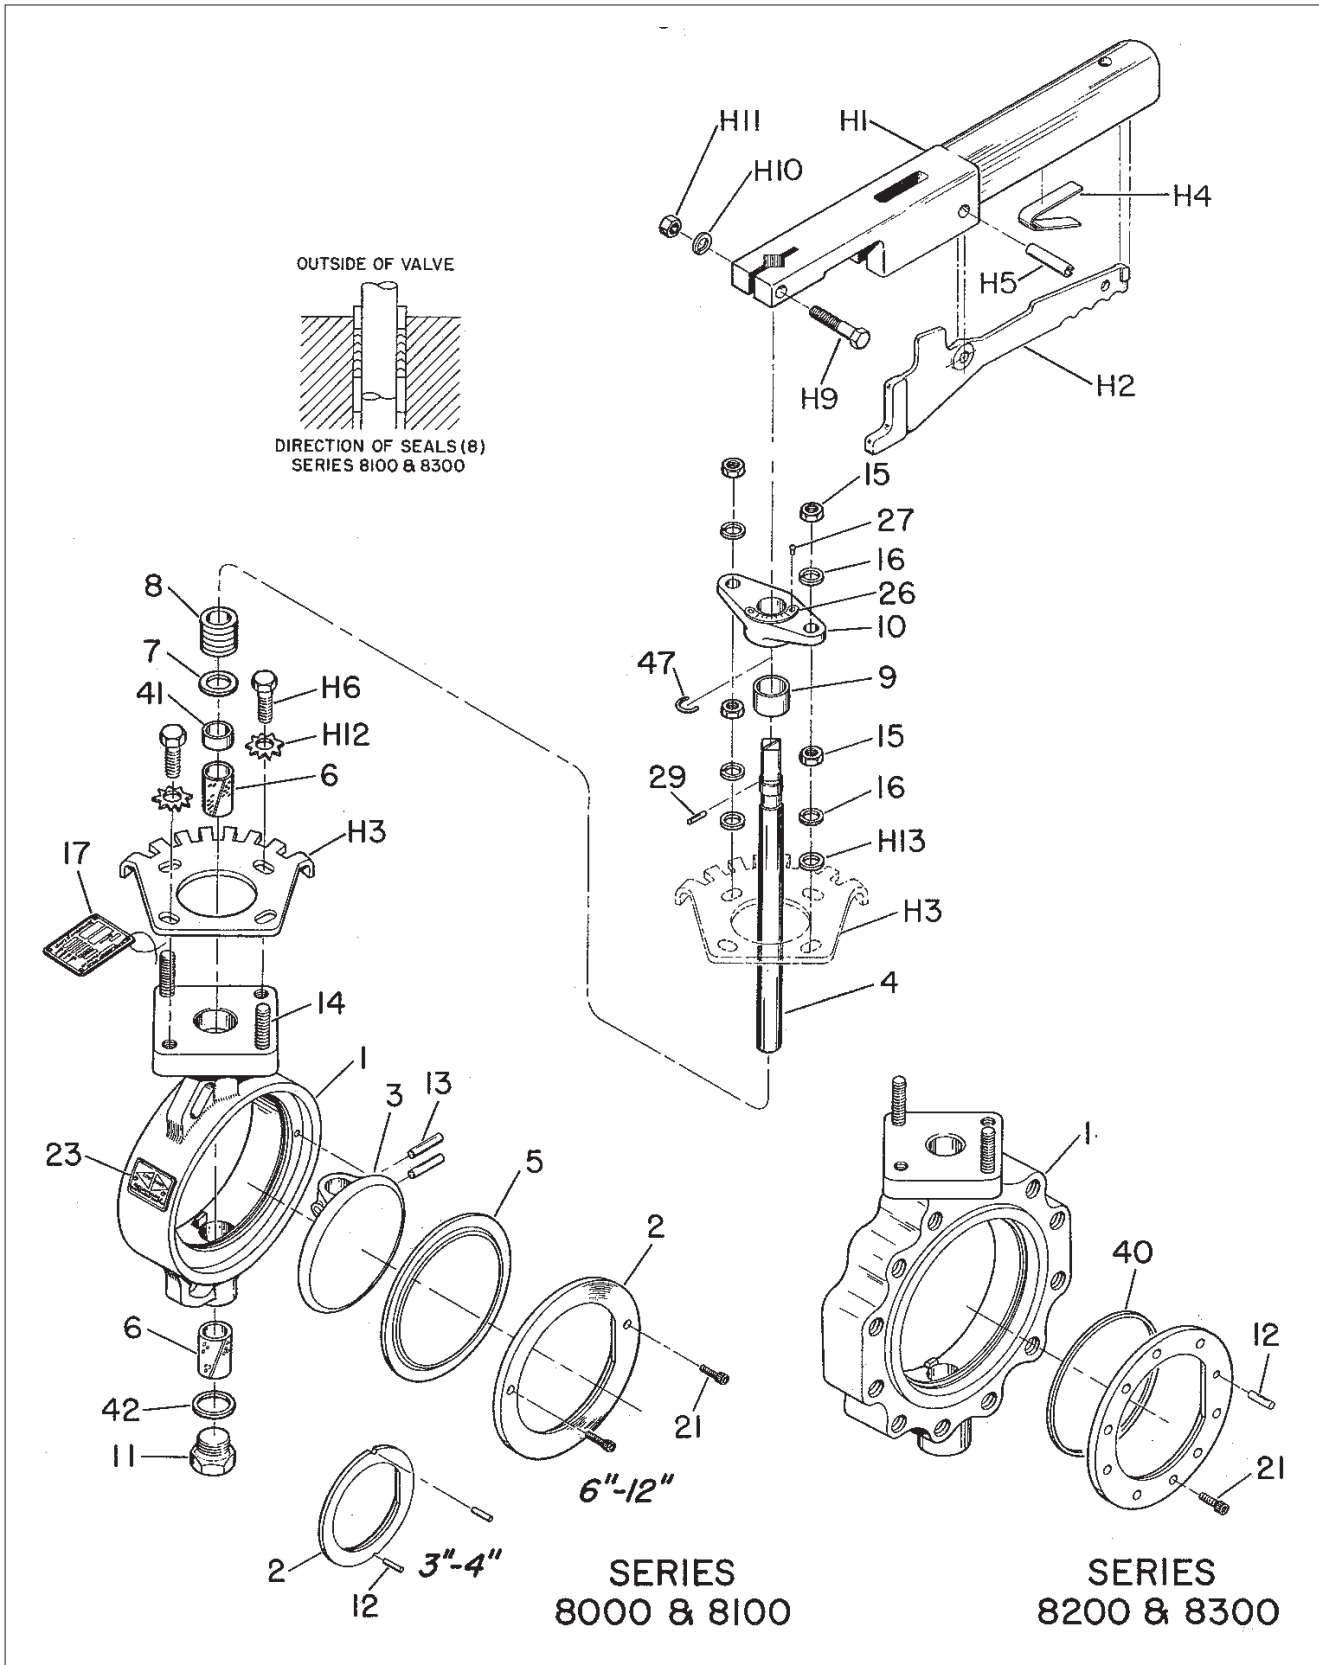
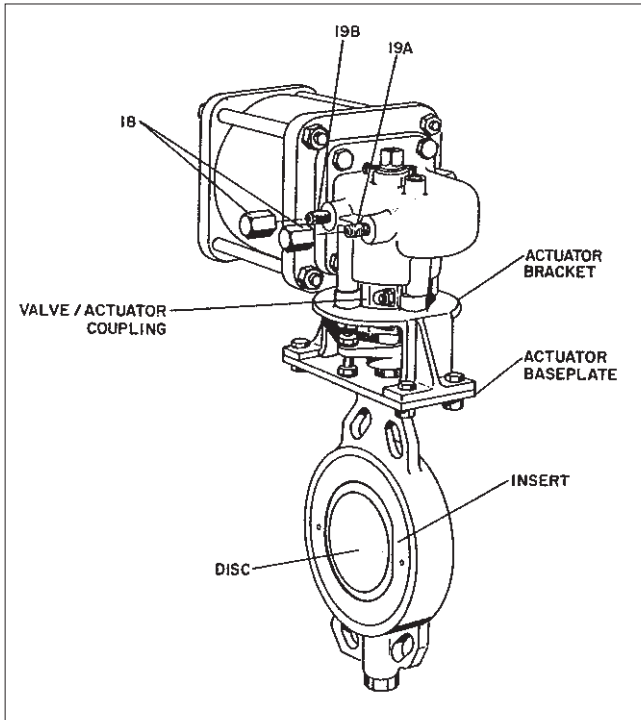

Figure 6. Exploded View
Figure 9.
To prevent seat damage from over-travel of the disc beyond the closed position (primarily during field mounting of a handle or actuator), a "positive stop" feature has been designed into the *Wafer-Sphere* butterfly valve. The "positive stop" feature also makes it possible to adjust the actuator travel stops in-line. The location of this feature is on the body insert shown in Fig. 6.
Routine maintenance consists of tightening down the compression plate periodically to compensate for seal wear. The valve should be closed during tightening. The compression plate, however, should not be tightened down too severely, since this will shorten the life of the seals. More extensive maintenance such as seat, seal and bearing replacement is described below. Numbers in () refer to items shown in Fig. 6.
4. Remove the disc pin welds by grinding or machining off the weld. Drive out the pins in the direction shown in Fig. 6.
5. Grind or file off the tack weld locking the pressure plug (11). Remove the plug and its seal (42).
6. Use a soft rod and hammer to tap the bottom of the shaft (4). Remove it through the top of the valve. **NOTE:** In doing so, and freeing the disc, be careful not to scratch the sealing surface of the disc.
7. Remove the packing (8) and the spacers (7) and (41).
8. Remove the top bearing (6) by pushing it up from the bottom (waterway).
9. Remove the bottom bearing (6) by pushing it down from the top (waterway).
5. Install the bearings (6) into the body bores from the ends of the valve.
7. Position the disc (3) in the body and slide the shaft (4) through the body and disc. Use caution to prevent damage to the bearings. An arrow and the word "bonnet" on the disc indicates correct orientation with the compression plate (10).
8. Insert the disc pins (13) and drive them into place. The wedge pins used in the design of the 8000 and 8200 series valves must be driven so that both pins are the same depth within 1/16". This requirement is not relevant to the taper pin design in the 8100 and 8300 series. Be certain that the pins are installed from the direction shown in Fig. 6. When they are correct, the indicator pointer (29) will point exactly parallel with the face of the disc. Weld both ends of the pins, small end first. After the disc cools, clean the welds with a wire brush. **CAUTION:** use care to keep contamination out of the valve.
9. Install the upper bearing spacer (41) (on all valves except 8" 8100 and 8300 series valves), the spacer (7), the packing (8), the compression ring (9) and the retainer ring (47) where applicable. If the packing is of the TFE chevron type, be certain that it is installed in the orientation shown in Fig. 6.
10. If the studs (14) have been removed from the valve, reinstall them in the holes shown in Fig. 6.
11. If the handle ratchet plate or the actuator base plate has been removed from the valve, reinstall it in the orientation shown in Fig. 6 or Fig. 9. Install lockwashers and screws in the two bonnet holes not used by the studs and install the lower lockwashers (16) and nuts (15) on the studs. Do not tighten the screws and nuts until the stops are set, (see SETTING ADJUSTMENTS Section).
12. Place the compression plate (10) over the shaft (4) and studs (14). Orient the plate so that the indicator pointer will be over the indicator plate. Install the lockwashers (16) and nuts (15), but do not tighten. Install the indicator pointer in the shaft.
13. Place the plug seal (42) in the recess at the bottom of the valve and install the plug (11). Torque the plug until it is flush with the body. A small (1/16") tack weld on the corner of the plug is recommended. **CAUTION:** A larger tack weld is apt to have enough heat to damage the seal.
15. Install the insert and insert screws as shown in Fig. 6. The 3" and 4" 8000 and 8100 series valves do not have insert screws. They use two pins (12) to locate and hold the insert. Tighten the screws uniformly.
16. With the valve still closed, tighten the nuts (15) on the compression plate evenly until the packing is adequately compressed to prevent leakage. This should require tightening the nuts approximately 1 1/2 to 2 full turns past the "finger-tight" position.
If it is necessary to orient the actuator in a different quadrant (**Figures 9 and 10**):
SETTING STOPS ON ST AND ST-MS PNEUMATIC ACTUATORS (FIG. 9)